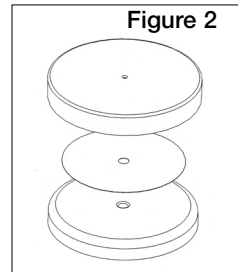

Figure 2
4. Place slip disk on top of seat; aligning the center holes (rotating version only - see figure 2)
5. Place turntable over seat and insert the center stem through both center holes of the slip disk and seat (rotating version only - see figure 2)